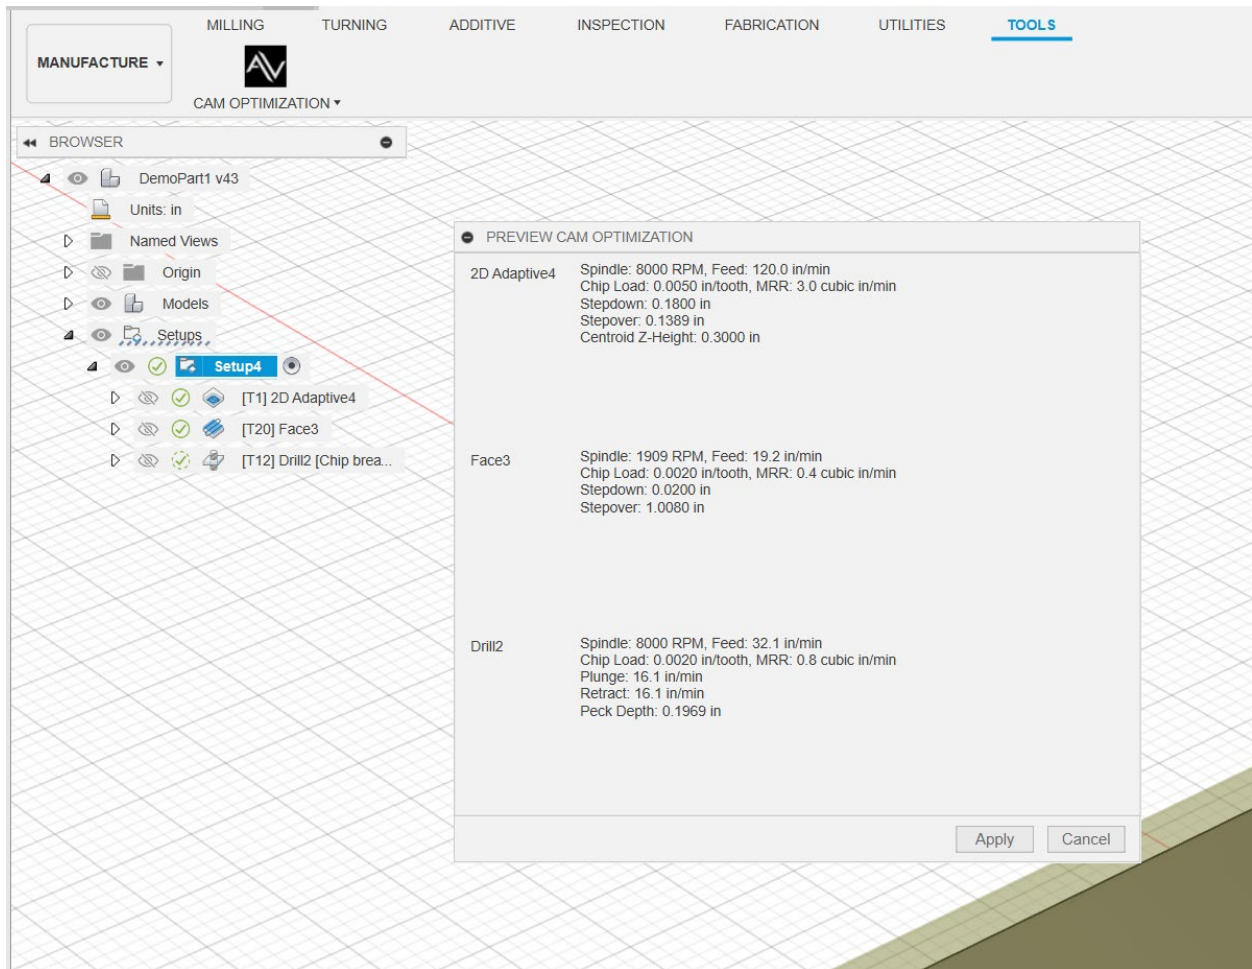

Figure 3: Preview dialog with optimized parameters
- A preview dialog shows optimized parameters (e.g., spindle speed, feed rate, stepdown) for each operation (see *Figure 3*).